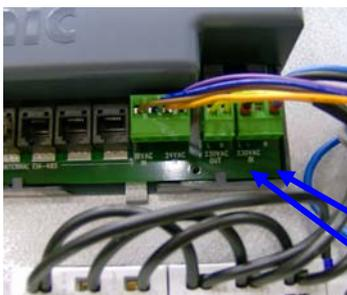

Fig. 1
- Use a voltmeter to check that there is 230V input voltage between wiring terminals 68 and 70 on the control unit. See Fig. 1.